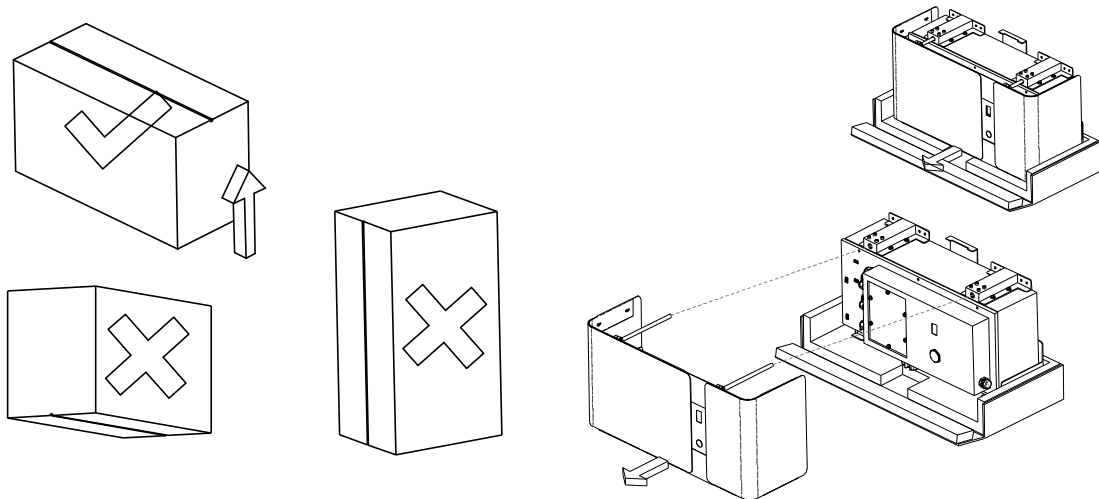

Figure 2.18 Taking out the battery
Step 3: Open the battery package. Pull off the buckle located in the middle of the bottom. Pull the top two guide rods to remove the front panel, as shown in Figure 2.18.